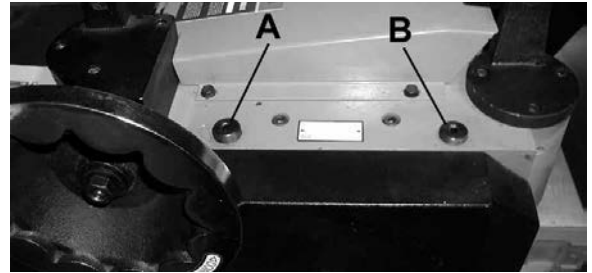

FIGURE 22
To adjust the spring tension of the infeed and outfeed roller, using a hex key, turn screw (A) Fig.22 to adjust the infeed roller spring tension and screw (B) to adjust the outfeed roller spring tension. Make sure that both sides are adjusted evenly or else you will get uneven feeding of stock.